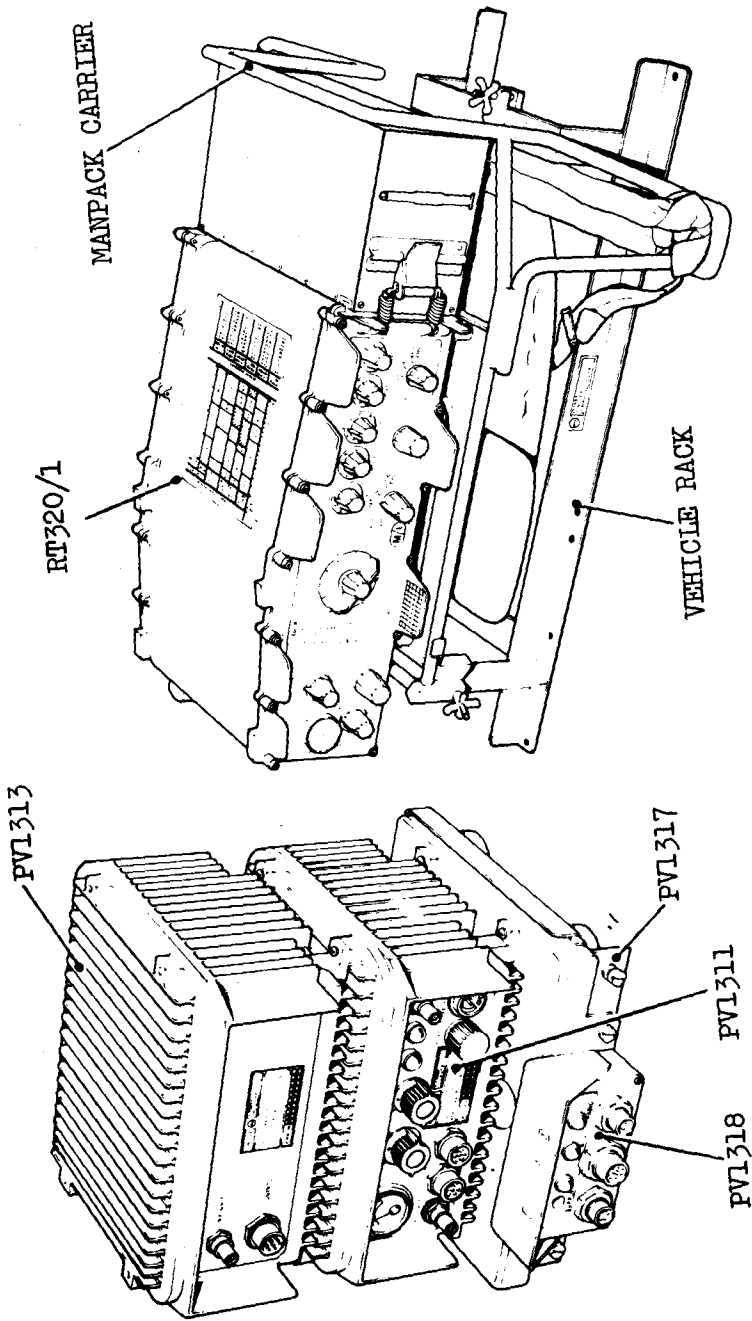
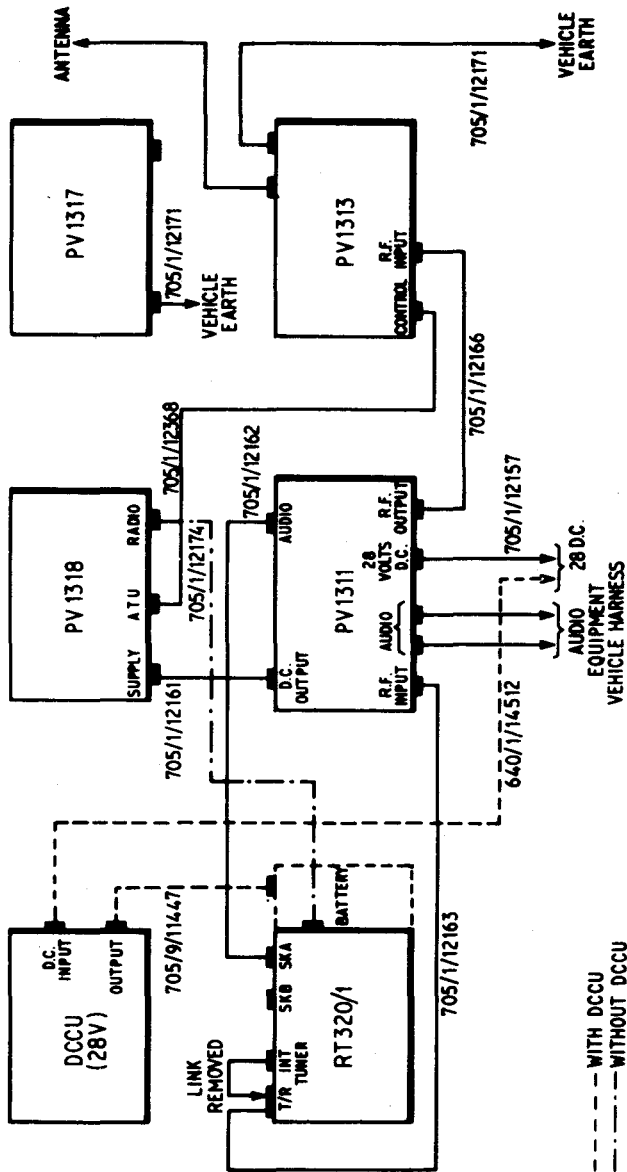

Fig.2 Typical Vehicle Installation
Fig. 3 Typical Interconnection Diagram
2.3 The normal disposition of the equipments in a vehicle installation is illustrated in Fig.2, which shown the PV1313 and PV1311 stacked on the PV1318 and together mounted on the PV1317. The RT320/1, complete with carrier and webbing, is mounted alongside on the vehicle rack which, if required, allows for instant removal of the RT320/1 and its redeployment as a manpack.
2.4 The installation procedure for the arrangement shown in Fig.2 is as follows:-
2.4.5 Remove the coaxial link from the rear of the RT320/1 and interconnect the equipments as shown in Fig.3, using the RT320/1 coaxial socket labelled T/R and the audio socket labelled SKA for connection to the PV1311 R.F. INPUT and rear panel AUDIO connectors respectively. The interconnecting cables can be supplied in lengths to suit any installation and those with a minimum surplus length should be used. Note that there are very high r.f. voltages present at the antenna base and that if an antenna other than the PV1316 is used, a well-insulated heavy duty cable must be used to connect the PV1313 antenna terminal to the antenna. The RT320/1 can be powered by its own battery, as shown in Fig.2, or by the regulated power supply from the PV1318, as shown in Fig.3. In the former case the battery should be float-charged by a 28V d.c. charging unit (DCCU) supplied from the vehicle 28V supply.
2.5 For installation other than that shown in Fig.2, the PV1311 and PV1313 can be mounted directly on the PV1317 and the RT320/1 can be mounted on a combination of the PV1317 and PV1318. In the latter case the M5 securing screws are inserted from the underside of the PV1318 to engage with the threaded bosses on the underside of the RT320/1 normally used for attachment to the manpack carrier.